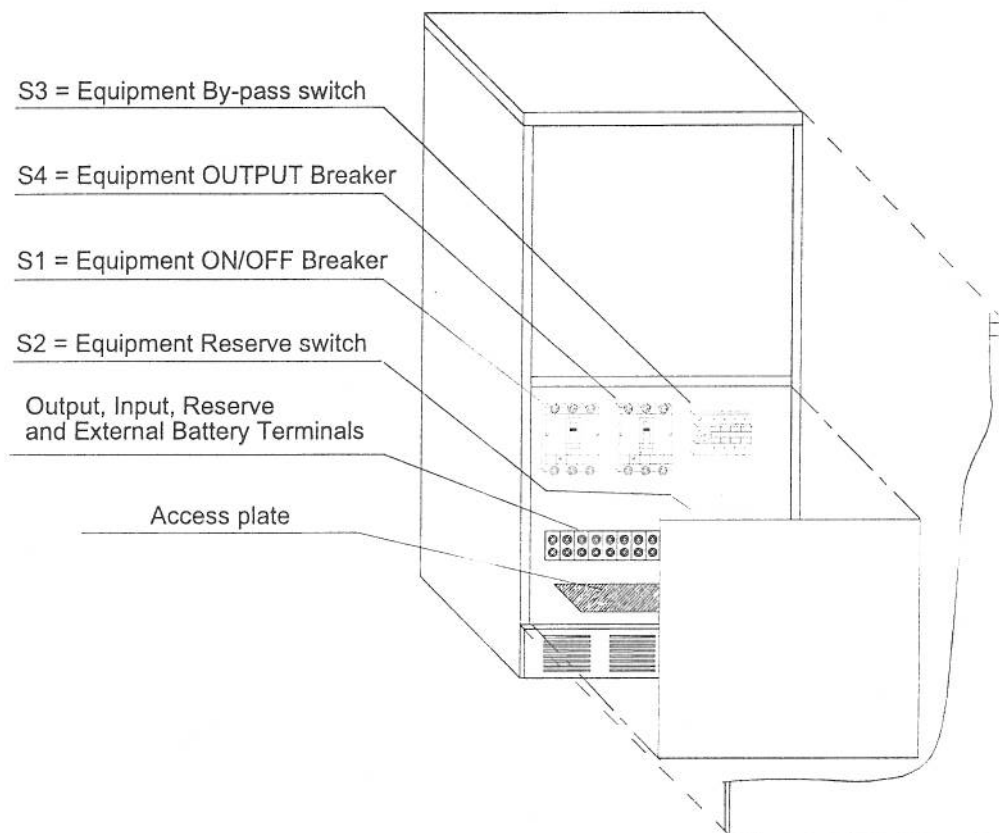

Figure 20 - 36 – 24/30/36kVA: Connections
- a) Remove front panel see Figure 20.
- Remove front panel see Figure 20.
2. Turn on the Utility supply Input, Reserve Input (if fitted) and UPS Output switches located behind the front panel, see figure 14 for 24kVA, figure 17 for 36kVA or figure 20 for 50/80kVA.
6. Press the Inverter On push button (I).